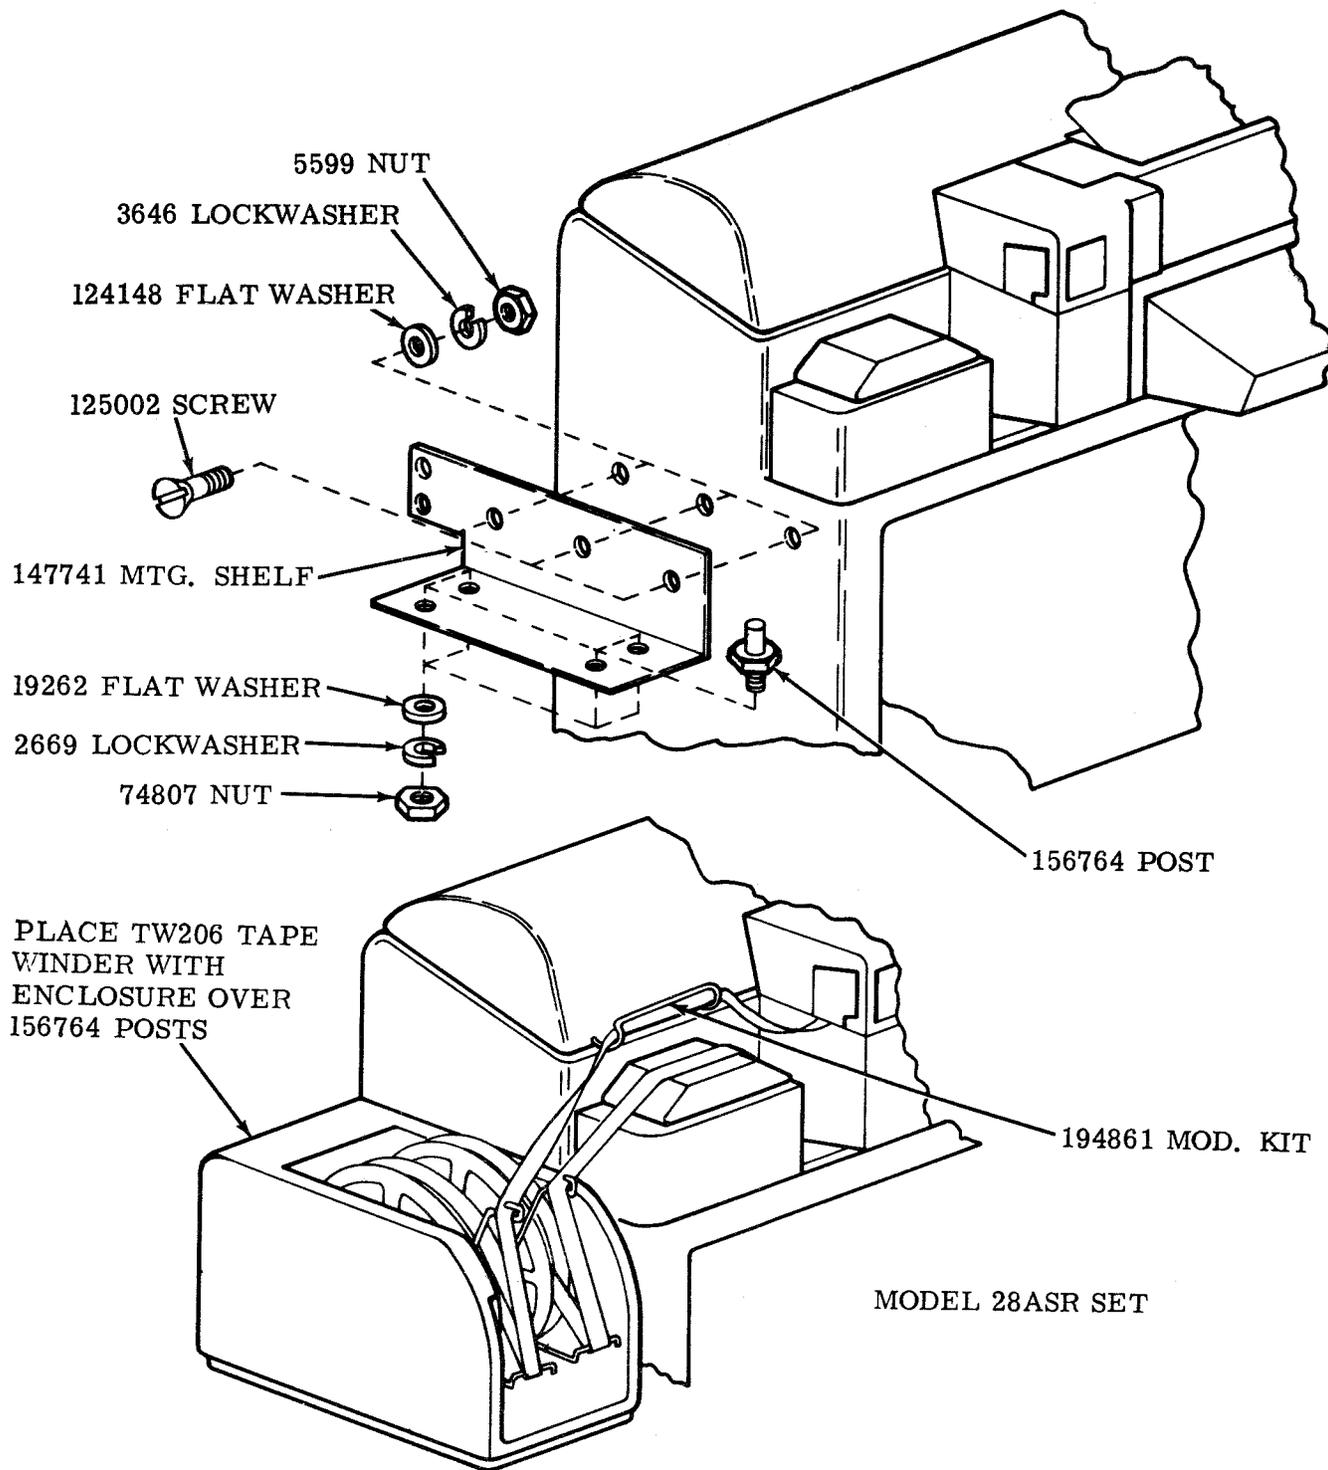

FIGURE 1
2. INSTALLATION (Figures 1 and 2)
a. The 147741 shelf is mounted on the left side of the ASR Set as shown in Figure 1.
d. Place one of the 146518 roller springs on each of the tape guides. Form the guides, if necessary, to a position so that tapes are routed as shown in Figure 1.